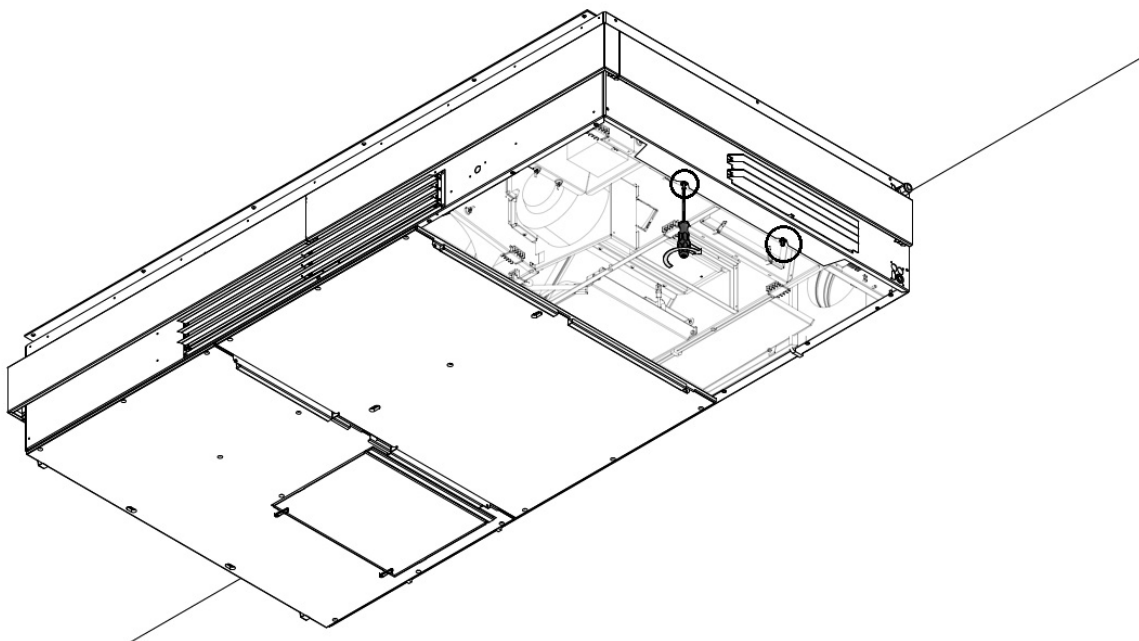

Figure 45: Screw two long bolts onto the right-hand side frame
10. Screw two long bolts into the frame on the right-hand side, see Figure 45 below. Remember to keep at least a 10 mm. distance between the frame and the bolt head.